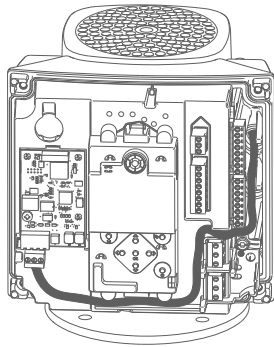

Fig. 19 Example of wire routing
8. Route the wires for the CIM module. See the example in fig. 19.